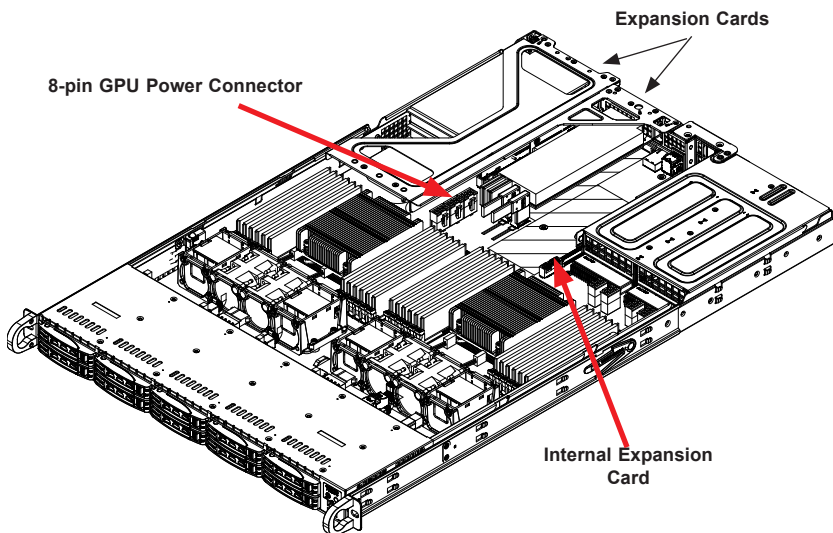

Figure 6-9. Expansion cards Installed
1. Position the air shroud in the chassis as illustrated in Figure 6-9.